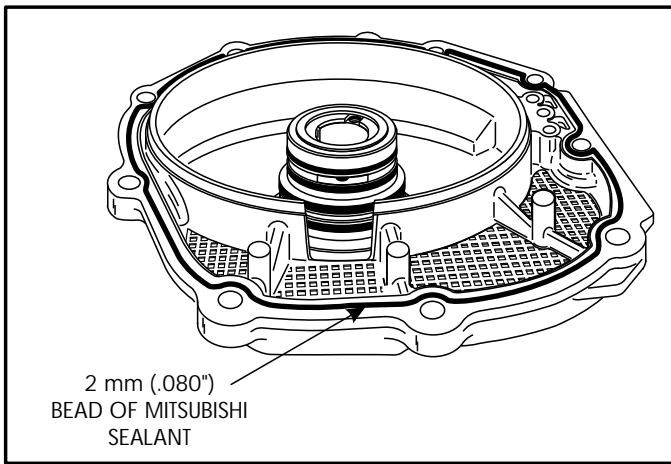

Figure 190
76. Apply a 2 mm (.080") bead of the Mitsubishi sealant, part number MD974421, or equivalent, to the rear cover, as shown in Figure 190.